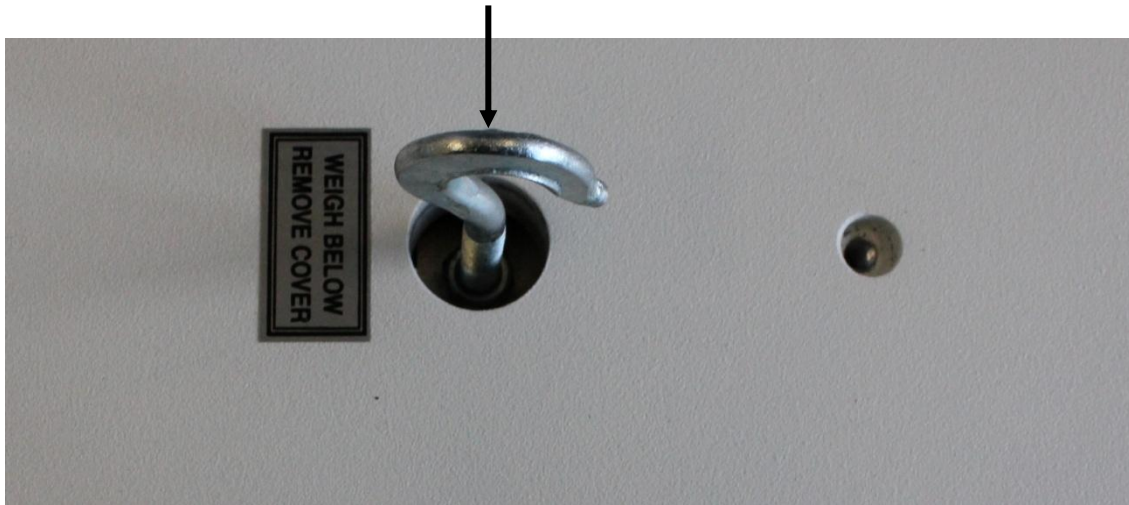

Fig.1: Setup of balance for underfloor weighing
- Screw in hook for under-floor weighing **carefully and completely**, see fig. 1.